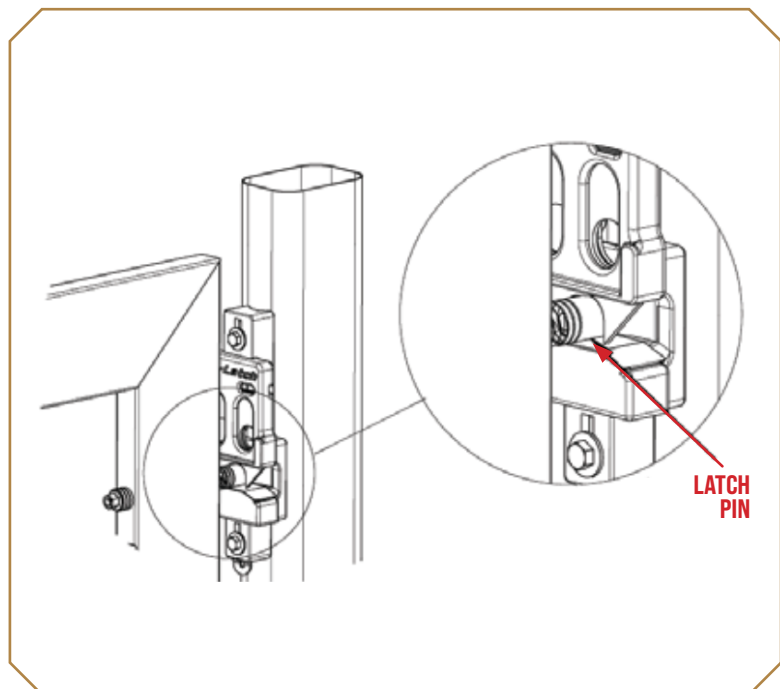

Figure 6
5. Push the latch upward to contact the latch pin and torque the mount screws to 20 ft lbs (Figure 6).